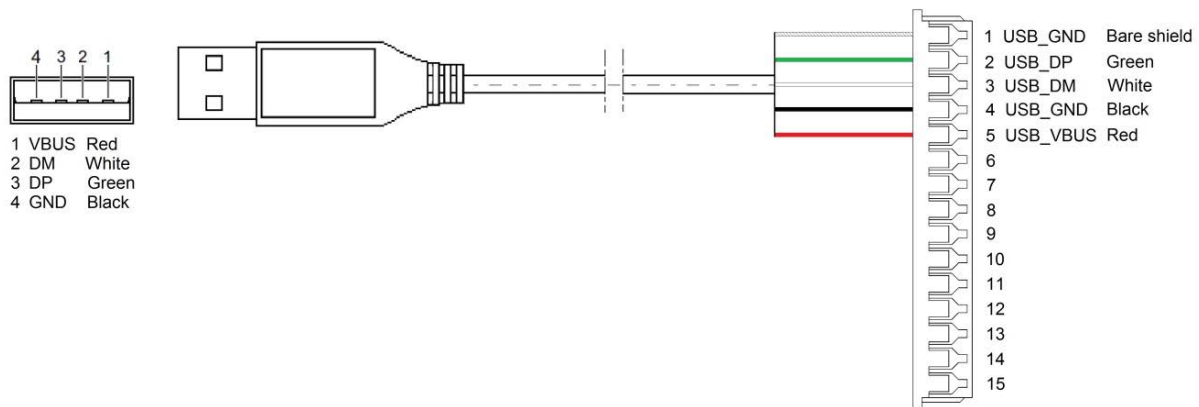

Figure 12 AB1 variant USB Parameterization cable connection
**System connector 1.** Connection example for using a standard USB cable to TW1m AB1 parameterization is shown in Figure 12.